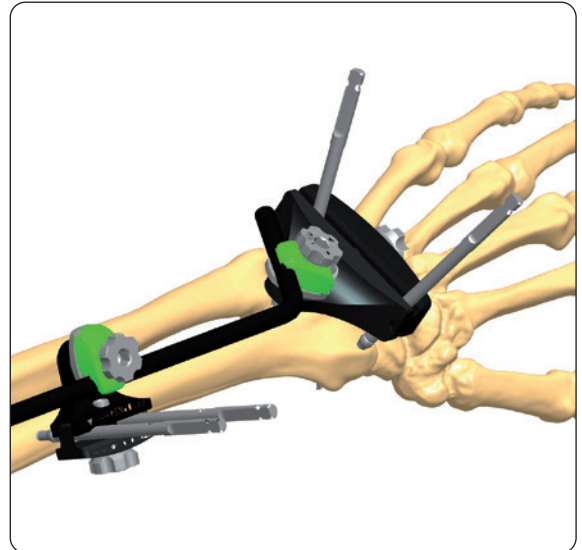

Fig. 38
- All clamps are tightened using the Allen Wrench avoiding loss of position (**Fig. 38**)